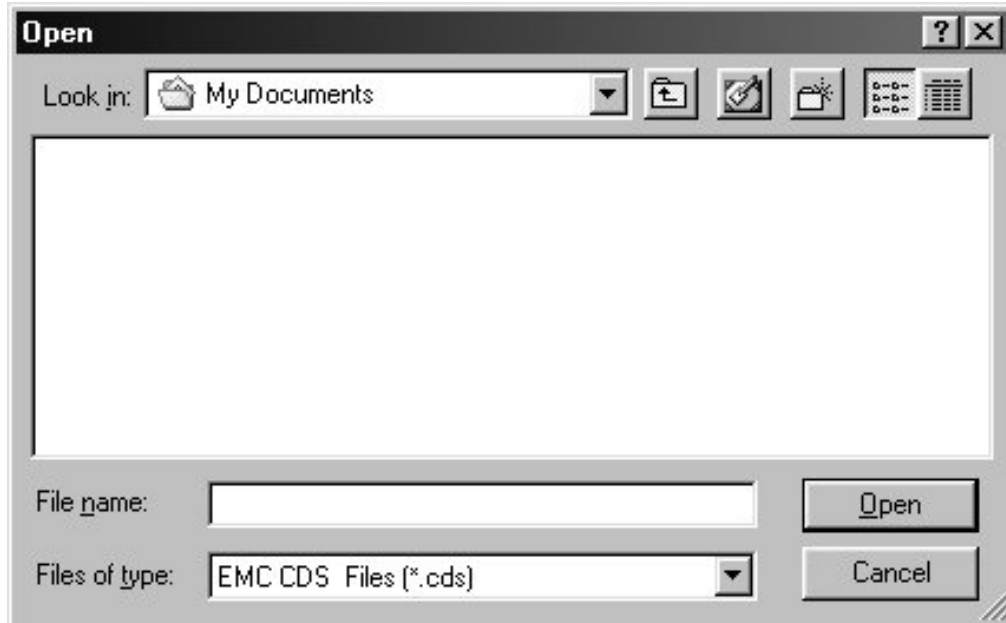

Fig. 11: Open a CDS file
Step 1: To select a file which extension file name is "cds". The open dialog box is as showing in Fig. 11.